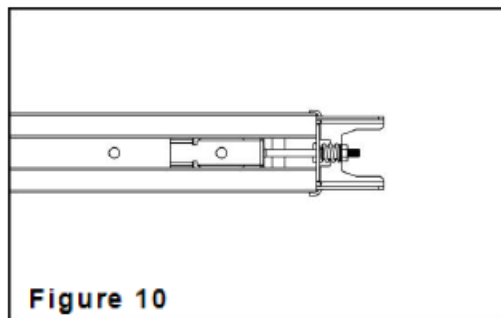

Figure 10
Step 4: Tight the nut to the right position as shown in Fig.10, cut the plastic tape, cut the plastic thread on sprocket, then whole rail assembled finished.